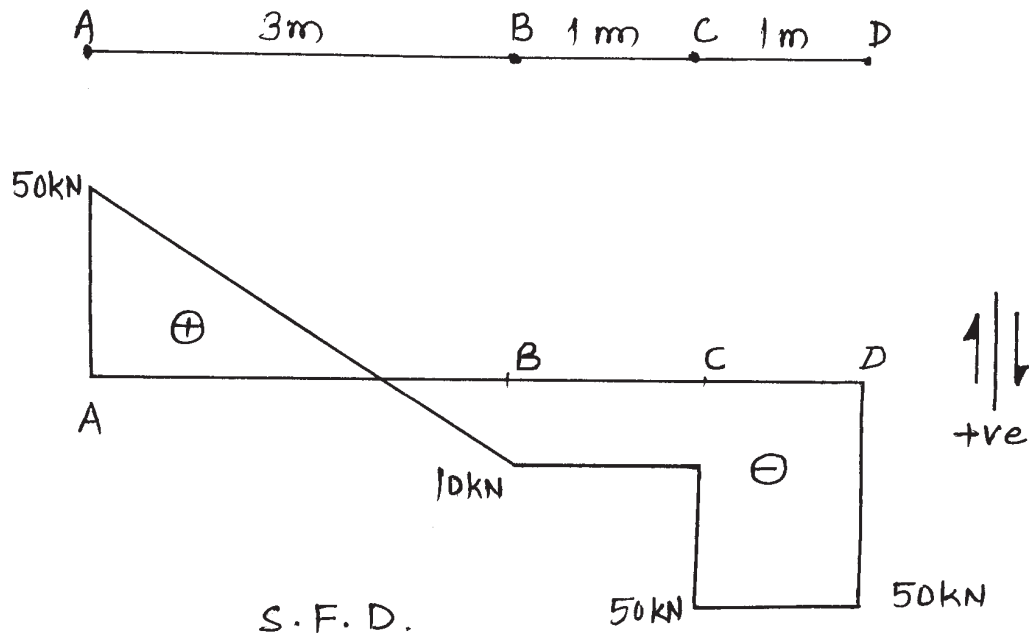

Fig. No. 1
- d) Figure No. 1 shows a shear force diagram for a simply supported beam ABCD of span 5m. Draw loading diagram and locate the position from support 'A' where bending moment will be maximum. (There is no couple acting on the beam.)